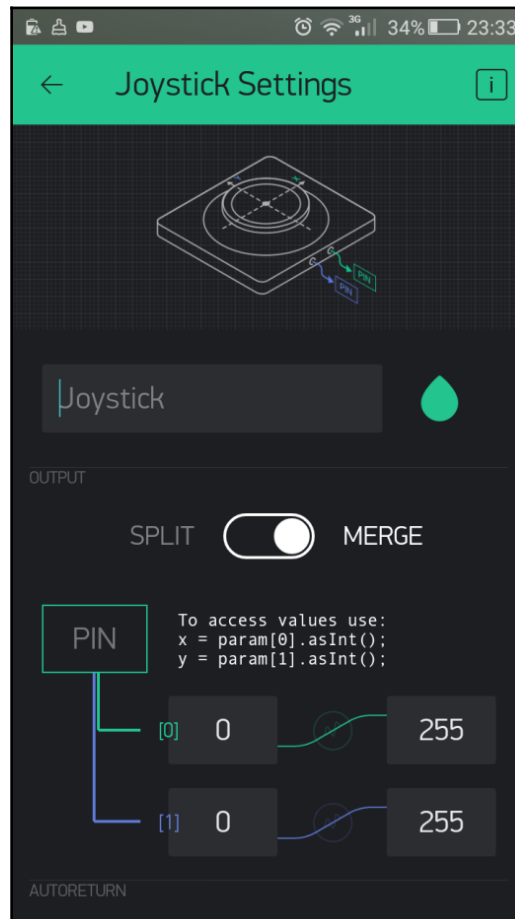

Figure 2.26: Joystick widget settings
9. Slide the **SPLIT/MERGE** switch to **Merge** (Figure 2.26):